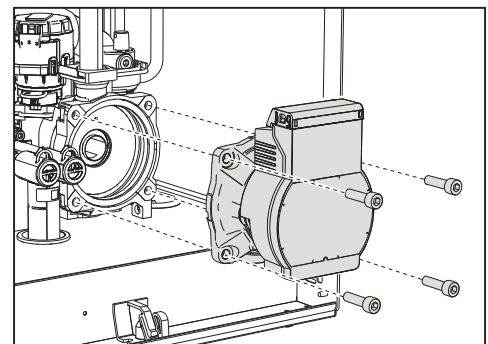

fig. 40
- Unscrew and remove the circulating pump motor assembly (fig. 40)